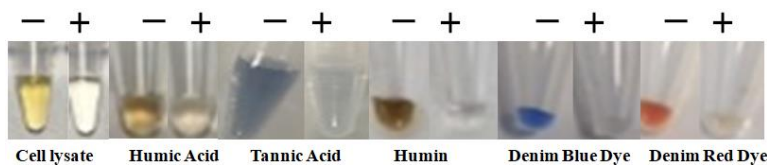

Fig.2 Cell lysate cleanup and PCR inhibitor removal
- Effectively removes inhibitors: polyphenolic compounds, humic/fulvic acids, acidic polysaccharides, tannins, melanin, heparin, detergents, denim dyes, divalent cations such as Ca²⁺, Mg²⁺, etc. (Fig.2)